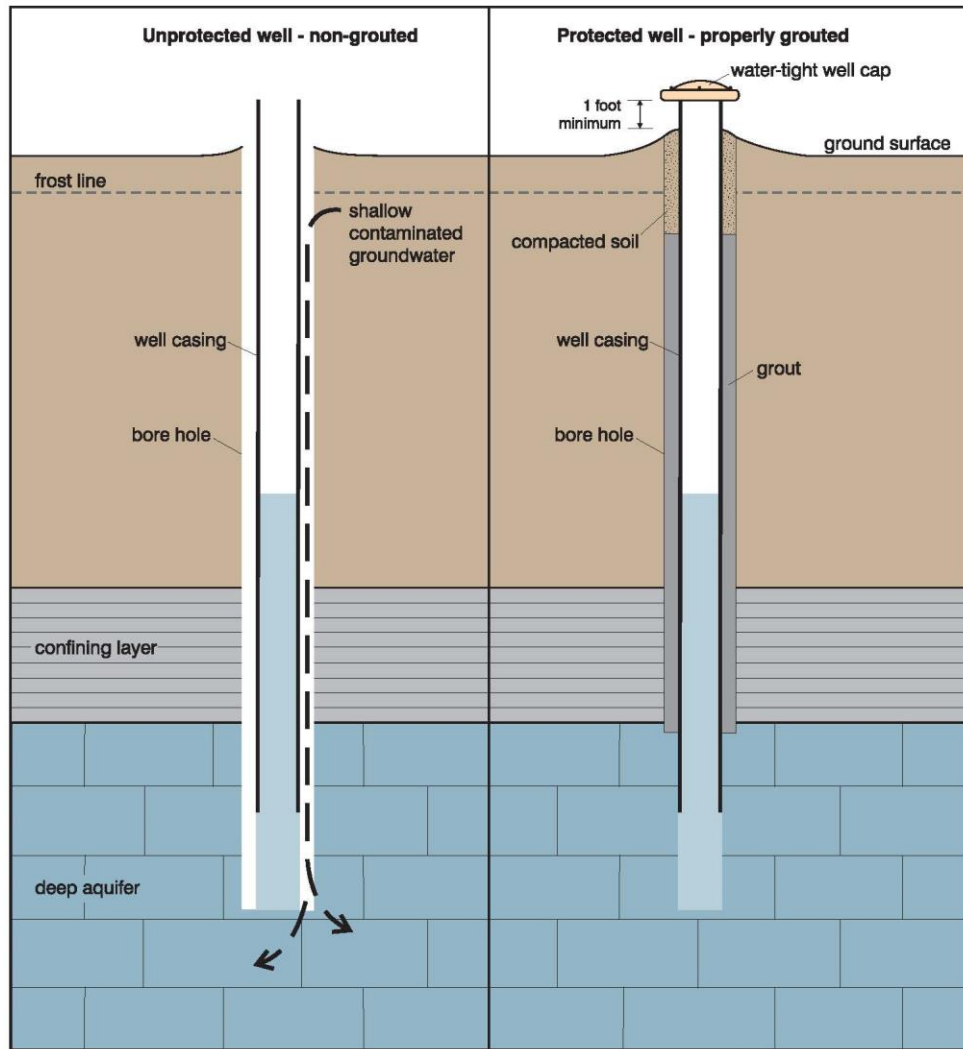

Figure 5. Grouted wells help block contaminant migration from shallow groundwater into deeper aquifers.
*Grout* is a sealant material placed in the annular space (the space between the well casing and the bore hole). Grout prevents surface water from running down the outside of the casing and entering the well and the groundwater (Figure 5). Proper grouting is one of the most important factors in well construction, and Iowa rules and regulations contain minimum standards for grouting the well casing. The rules and regulations also contain minimum materials standards for casing, *pitless adapters*, and pumps.